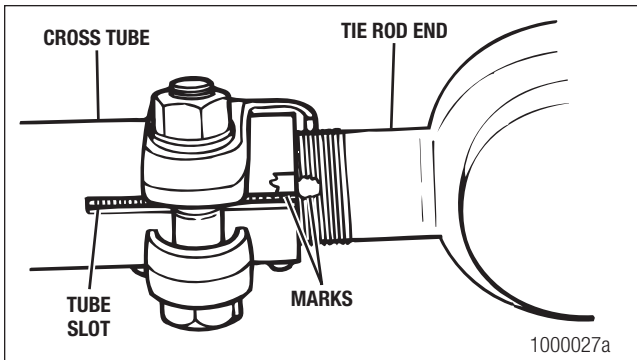

Figure 4.2
- a. Mark the position that each tie rod end is installed into the cross tube. Count and record the number of threads that appear outside of the cross tube. Figure 4.2.